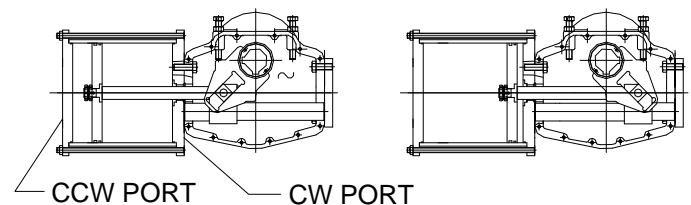

Figure 3
A) Verify that the clockwise (CW) and counterclockwise (CCW) supply ports on the actuator are **not** open to the atmosphere by turning the handles on the 3-way valves so that they are parallel to the air flow (see Figure 3).
C) Applying air pressure to the CCW port drives the piston toward the front flange which turns the yoke counterclockwise when viewed from the accessory side of the actuator. When pressure is applied to the CW Port the piston is driven towards the end cap which turns the yoke clockwise. This is shown in Figure 3.
A) Verify that the clockwise and counter-clockwise supply ports on the actuator are open to the atmosphere by turning the handles on the 3-way valves so that they are perpendicular to the air flow (see Figure 3).